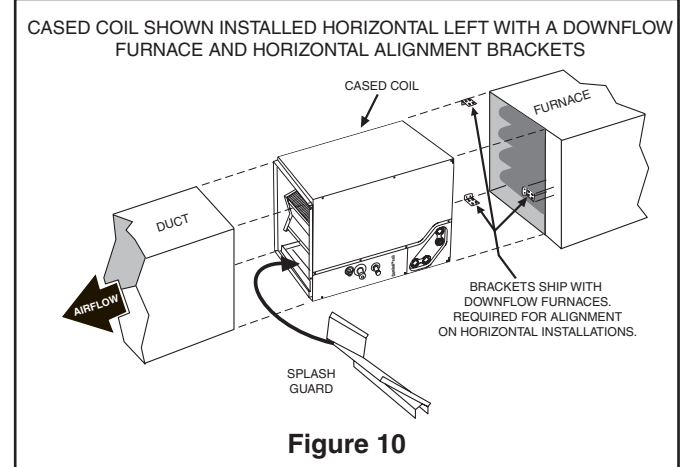

Figure 10
- Two brackets are used to attach the rear of the coil and furnace and one bracket is used to attach the front. The rear brackets will use existing screws on the coil enclosure (two on each side at the bottom). Each of the rear brackets will be attached with the wide side of the bracket resting on the top and bottom of the horizontal coil and furnace (see Figure 10). Four additional screws will be used to attach each rear bracket.